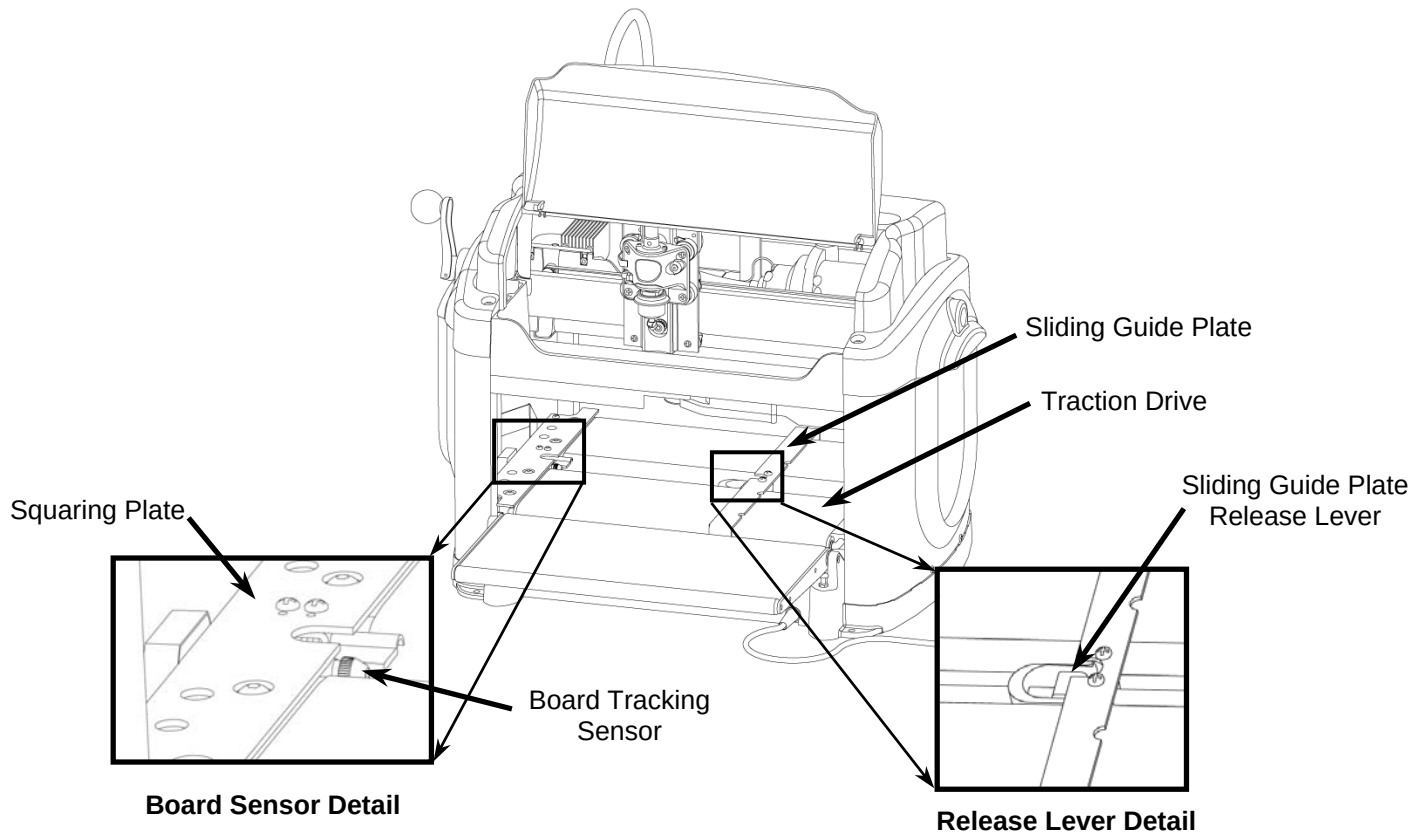

**FIGURE 19: WORKPIECE
2. Check the bottom of the workpiece for features that will make it unusable in the machine. The bottom surface of the workpiece where it contacts the squaring plate must be flat and level for a width of at least 3/8 inches along the bottom edge to allow the Board Tracking Sensor to accurately calculate the position of the workpiece at all times (see Figure 19). If a workpiece does not have the required surface available for the sensor to follow (e.g., if it is already carved on the back), it will be necessary to fasten the workpiece to a sled or carrier jig to do further work on it. If a workpiece is slightly cupped or bowed, the workpiece should be inserted with the cup or bow facing down.